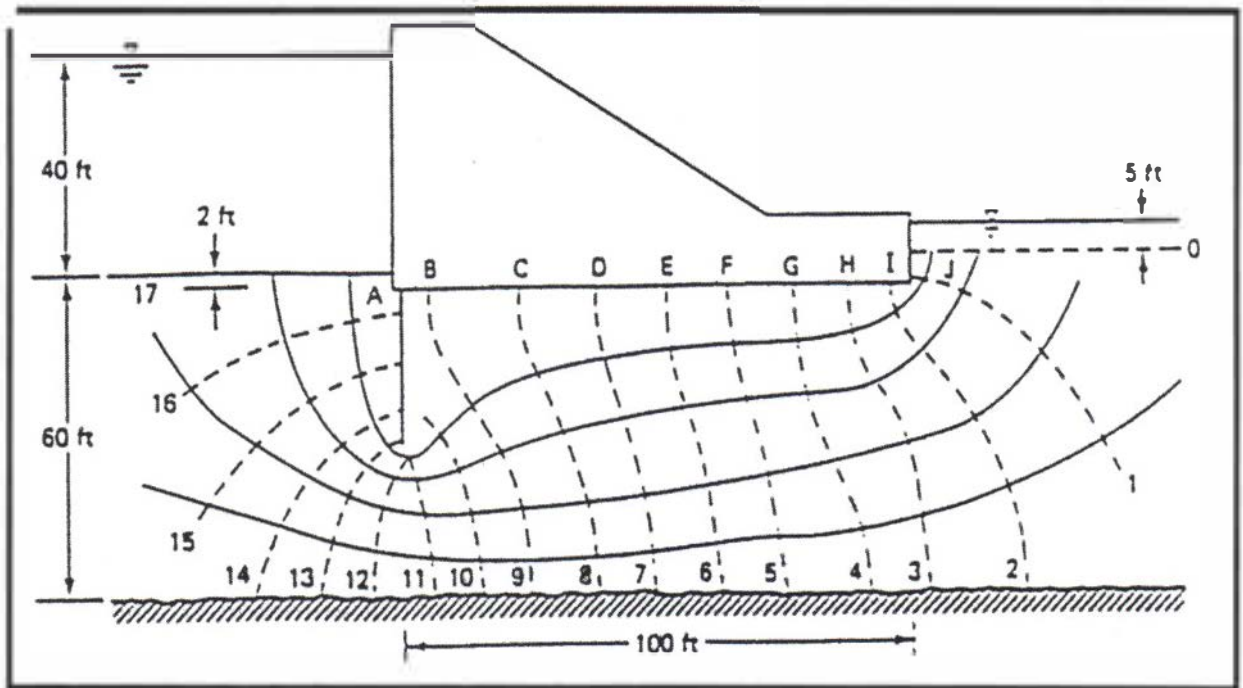

Fig. 3
6. A dam is constructed on a permeable stratum underlain by an impermeable rock (Fig. 3). A row of sheet pile is installed at the upstream face. The permeable soil has a hydraulic conductivity of 150 ft/day.